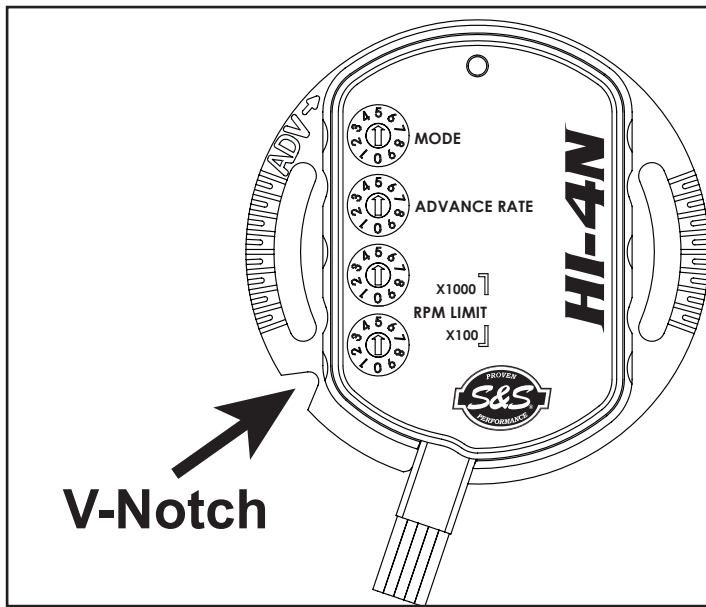

Figure 5
4. Note location of breaker plate. There is a V-notch (**Figure 5**) in the breaker plate used for alignment. When you install the HI-4N, align the V-notch in the same location. This should set the timing close enough to start the engine. Remove and save the two standoffs
4. Note location of timer plate. There is a V-notch (**Figure 5**) in the timer plate used for alignment. When you install the HI-4N, align the V-notch in the same location. This should set the timing close enough to start the engine. Remove and save the two standoffs and washers. Remove the sensor, shield, timer plate, trigger rotor, and advance assembly.
used for alignment. **See Figure 5.** When you install the HI-4N, you should align the V notch in the same location. This should set the timing close enough to start the engine. Remove and save the two standoffs and washers. Remove the sensor plate.
Below is a description of the function for each switch. Refer to the **Figure 5** to locate rotary switches for the following functions.
The top, "X1000" switch adjusts the rev limit in 1000 RPM increments and the "X100" switch adjusts the rev limit in 100 RPM increments. The rev limit on the HI-4N shown in **Figure 5** is set to 5500 RPM.